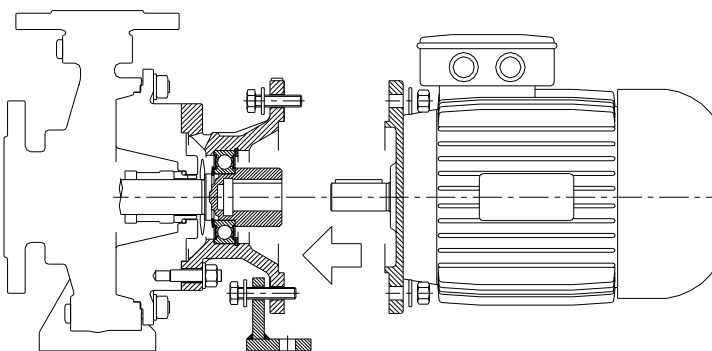

Fig. 23A
- Attach the electric motor to the pump flange making sure that the two shafts line-up and the key engages the keyway. Bolt the assembly with the supplied fasteners and install the supporting foot if it applies to the specific pump (see fig 23A).